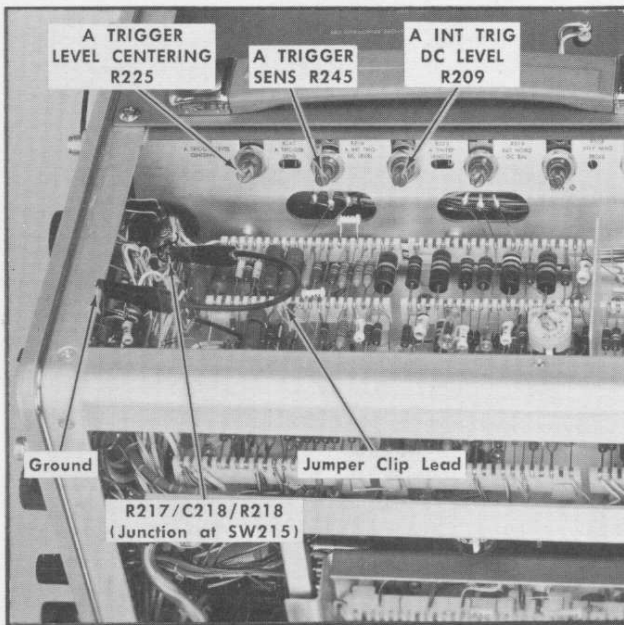

Fig. 5-5. A Trigger clip-lead connection, adjustment and test point locations (upper right corner view).
- f. Locate the junction of R217, C218, and R218 (see Fig. 5-5). Connect a short jumper clip lead (item 11) between the junction and ground. This jumper disables the A TRIGGERING LEVEL control.
- g. Rotate the A TRIGGER LEVEL CENTERING R225 and A TRIG SENS R245 controls (see Fig. 5-5) fully clockwise.
- f. Adjust the A INT TRIG DC LEVEL R209 control (see Fig. 5-5) to obtain a stable display. (With the 'A' SLOPE switch set to +, the sweep trace should start on the positive-going rise of the calibrator waveform.)